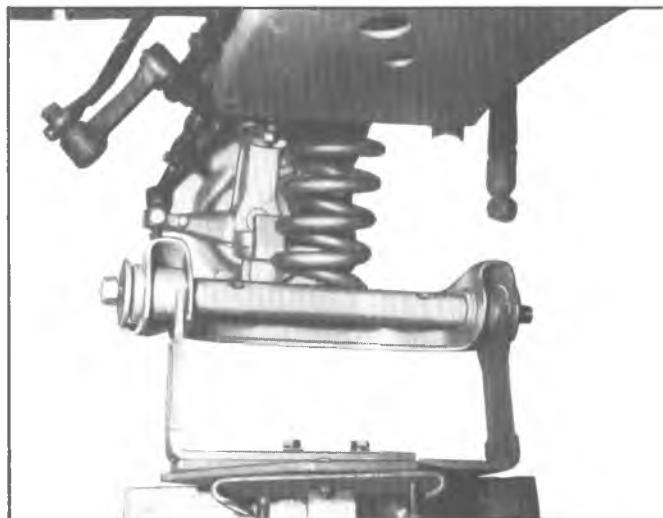

Fig. 33A—Lowering Control Arm for Bushing Replacement
Removal (figs. 33A and 33B)
7. Lower jack SLOWLY to release spring compression (fig. 33A) and gain clearance to remove bushings.